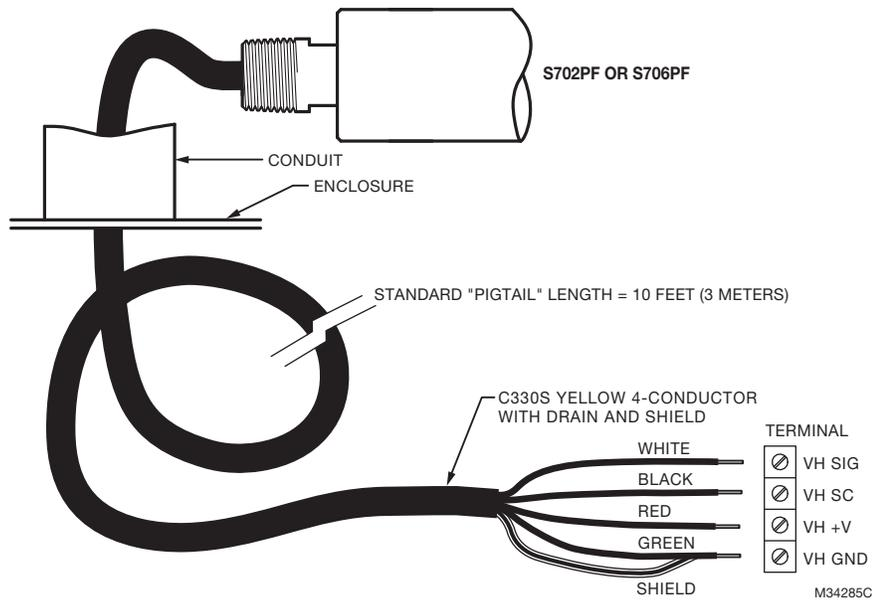
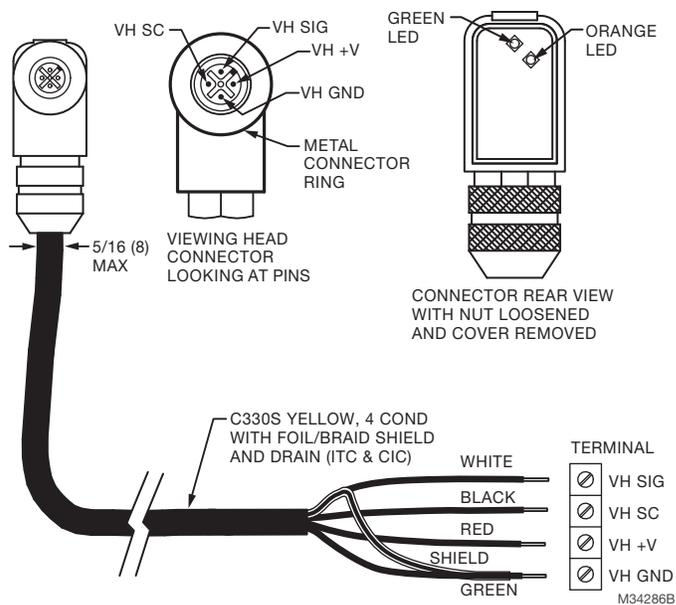

Fig. 3. Model 700 Viewing Head Cable With 1/2 in. NPT Fitting.
Fig. 4. Model 700/800 Viewing Head Cable Connections.
Connectors and cables are shown in Fig. 3, Fig. 4, and Fig. 5. Fig. 3 shows the viewing head cable with the 1/2 in. NPT pipe fitting and pigtail for use in a conduit. The PF model comes with 10 feet of Honeywell C330S cable. This cable is recommended for all new installations. It has ITC and CIC ratings for hazardous location. Figs. 4 and 5 describe the C330S cable used with the right angle field-wireable connector. Refer to “Accessories” on page 11 for part numbers.
- a. Wires and LEDs are in proper locations per Fig. 4.